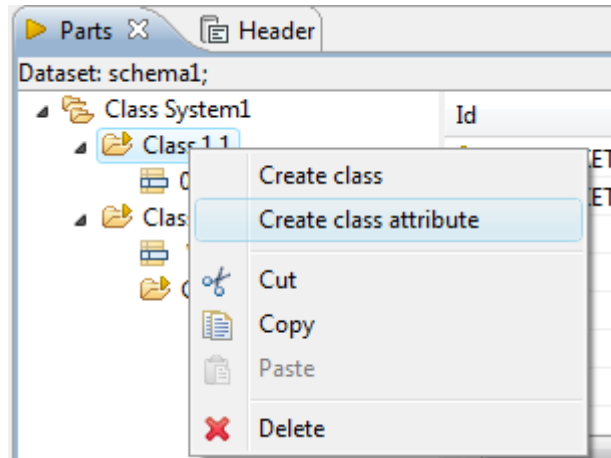

Figure 1. Context sensitive menu to create new class attribute
- Right click on an applicable  classification node. The context sensitive menu appears (see Figure 1).